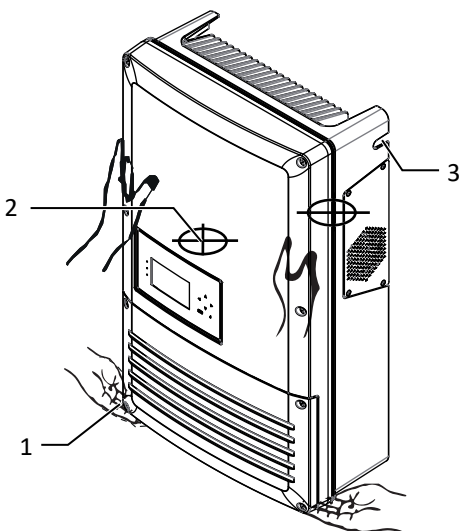

Fig. 14: Lift the device using the housing
1. Lift the device using the lateral openings [See figure 14 [▶ Page 19]. Observe the device's centre of gravity!